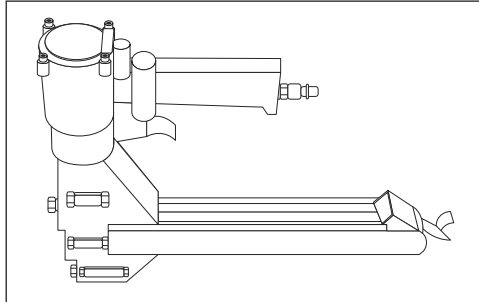

Figure 11
2. Pull pusher back and rotate to a locked position. (See Figure 11)